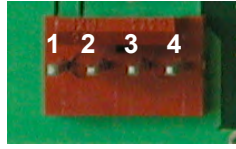

Figure 2-2 Power connector
4. Connect the power connector; making sure that the +5V goes to V+ as shown in Figure 2-2. Turn on the power: the LCD backlight should come on with a blinking cursor in the top left corner.